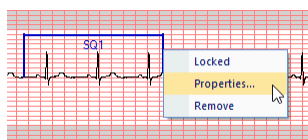

Figure 417 – Marker context menu
3. To edit the measurement properties, select the **Properties...** item in the displayed context menu (see Figure 417).